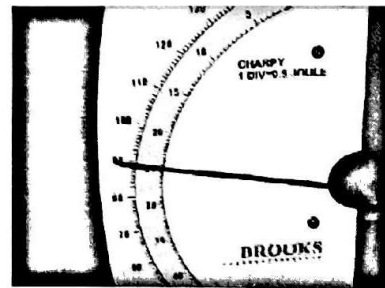

Fig.5.13: read the dial
7. Read the energy absorbed by the broken specimen from the pointer on the dial See Fig.5.13.